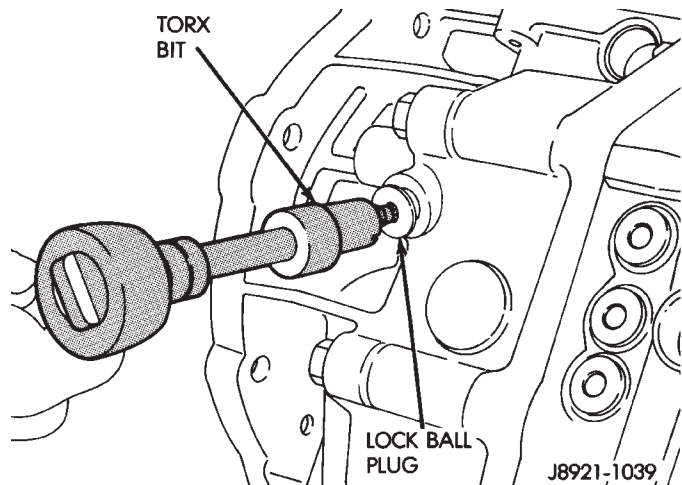

Fig. 9 Removing/Installing Lock Ball Plug
(10) Remove plug for reverse shift head lock ball. Plug is at right side of adapter housing near backup light switch (Fig. 9).